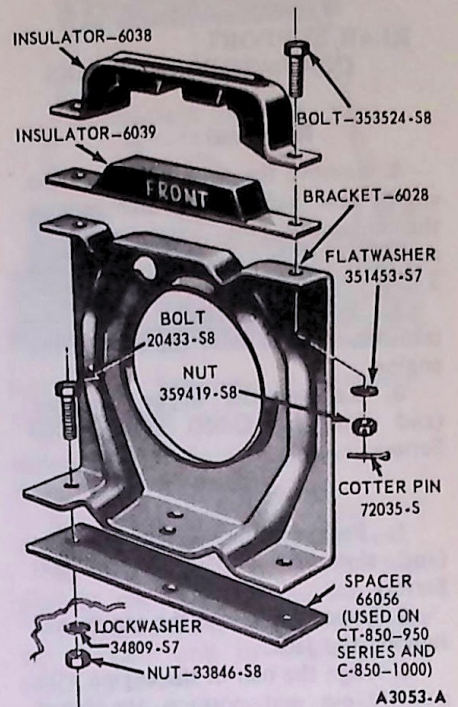

FIG. 6 Engine Front Support— C-Series
2. Remove the front support insulators to front support bracket cotter pins, attaching nuts, flatwashers, and bolts (Fig. 6).